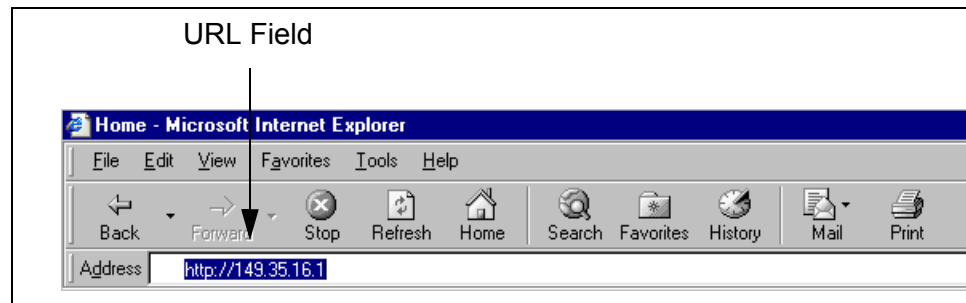

Figure 11. URL Field in a Web Browser
1. Enter the IP address of the management card in the URL field of your web browser, as shown in Figure 11. If the chassis has two management cards, enter the IP address of the active card.